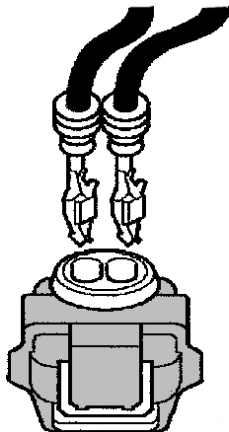

Fig. 2
- Lock the connection contacts into the new plug housing (see Fig. 2).